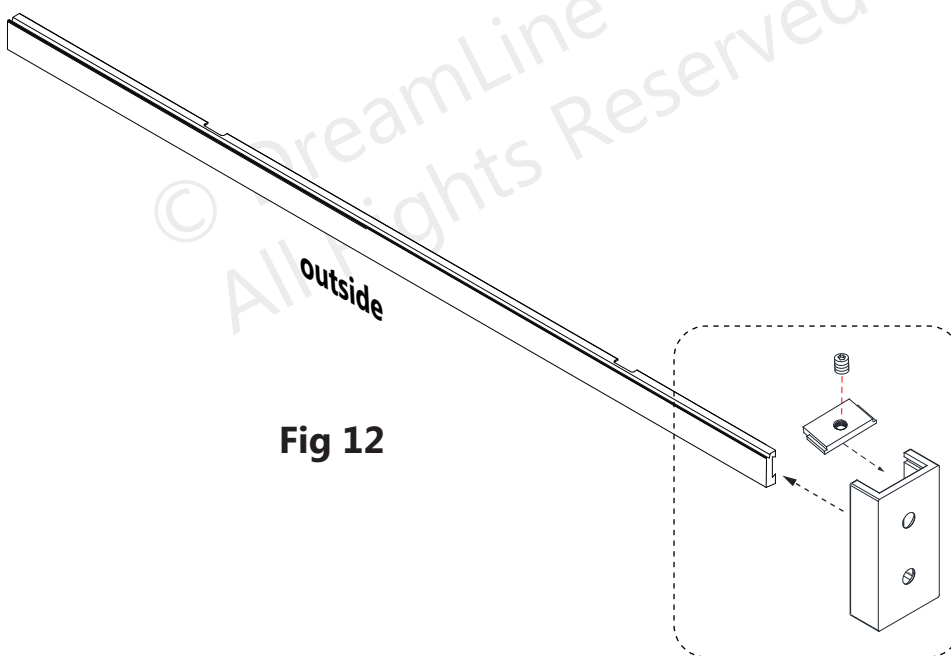

Fig 12
12. Attach the remaining **Guide Rail Bracket Assembly (#02)** onto the opposite end of the **Upper Guide Rail (#01)**. (Fig 12)